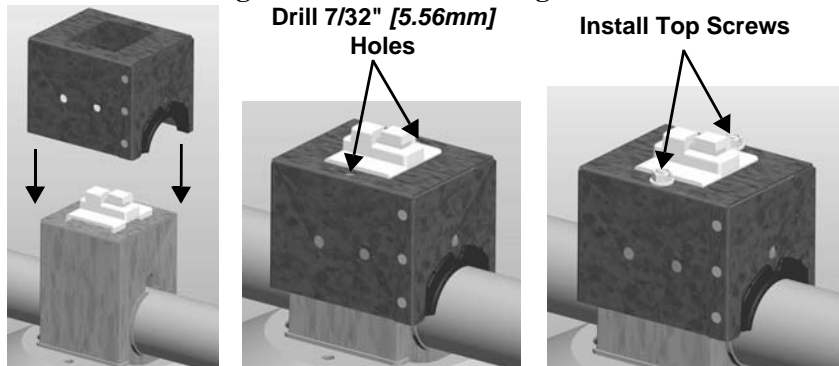

Figure 2. Install Screws
5. Position the cap over the anti-roost insulator, see **Figure 2**.
**Note: Do not overtighten the screws! See Figure 2.**
10. Install the remaining four screws (part number 48439) into the sides of the drop tube, see **Figure 2**.